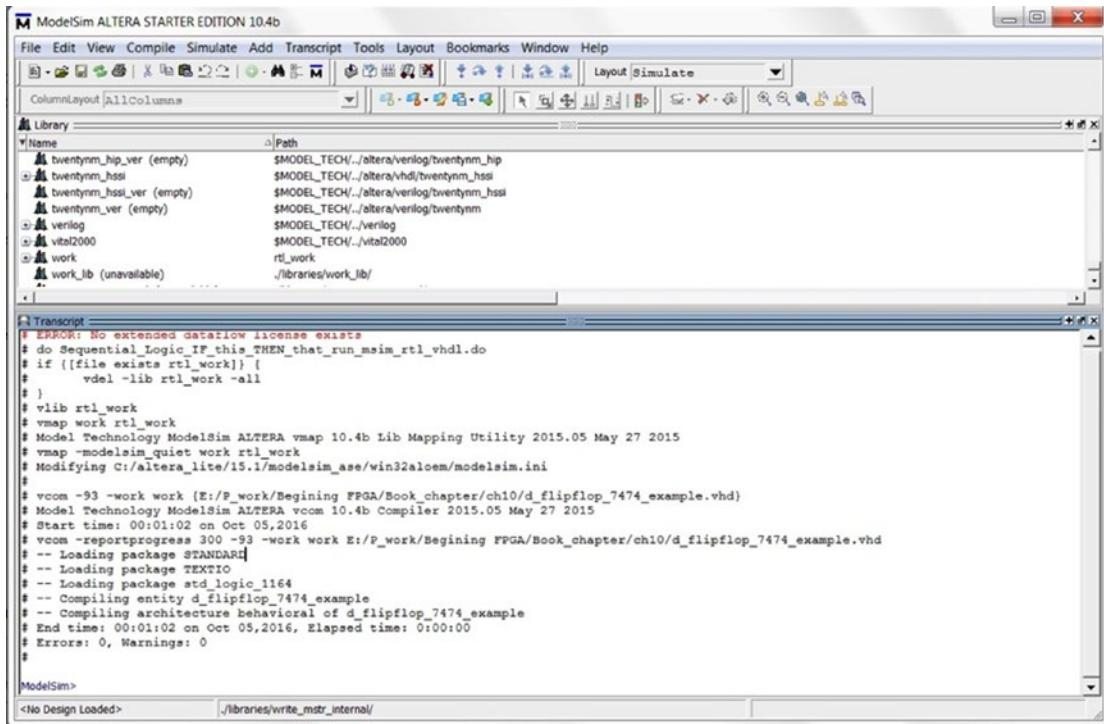

Figure 10-2. ModelSim bring up by Quartus Prime
In this chapter we use script to simulate most of the design. Following are the steps for getting the result in Figure 10-2. You can use step 1 to add all of the example design from this chapter to the same Quartus project and use step 2 to switch the design as top level for simulation.
3. Running ModelSim from Quartus Prime. Click Tools ▶ Click Run Simulation Tool ▶ Click Run RTL Simulation. Figure 10-2 shows the result. There is the error of “No extended dataflow license exists.” It is because we are using the free version of the ModelSim. It does not affect our simulation.